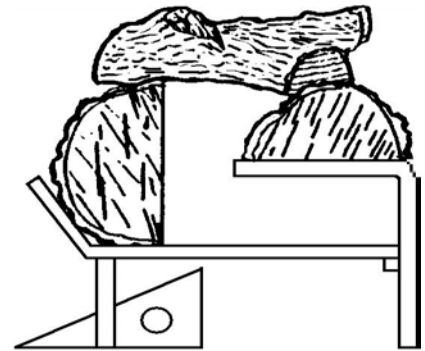

Figure 4
3. The remaining logs are **top logs**. These logs are placed diagonally across the bottom logs and can be arranged to create the most realistic flame patterns. (See Figure 4.)